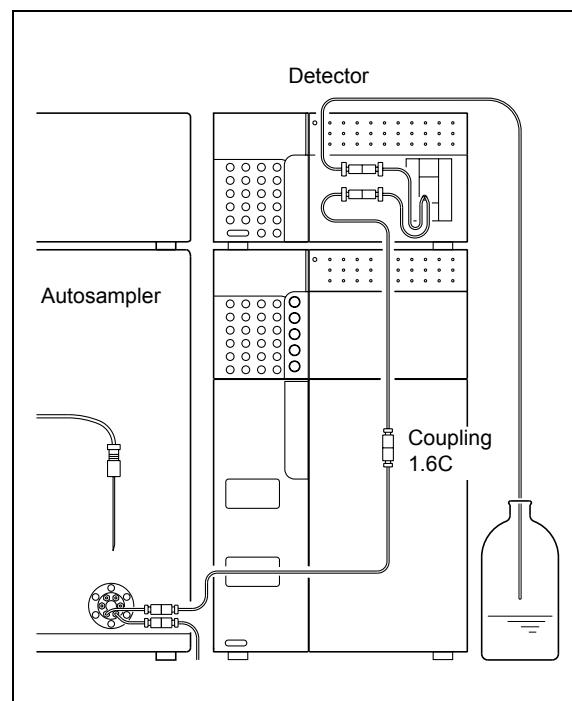

Fig. 7.10
- 3** Clean the system flow lines using one of the procedures described below. Before cleaning the flow lines, remove the column from the system, and connect the column inlet to the column outlet with a coupling 1.6C (Fig. 7.10).